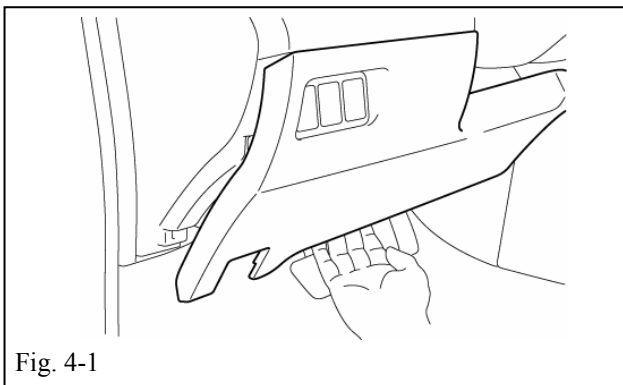

Fig. 4-1
- (a) Carefully pull on lower portion of lower instrument panel. (Fig. 4-1).